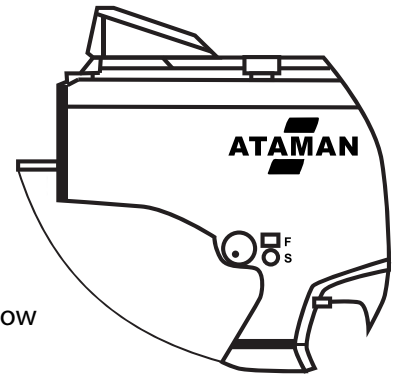

Figure 2
- Locate the cross-bolt safety lock on the **RIGHT** side of the gun, directly behind the trigger as shown in Figure 2.
- Locate the cross-bolt safety lock on the **LEFT** side of the gun, directly behind the trigger as shown in Figure 2.